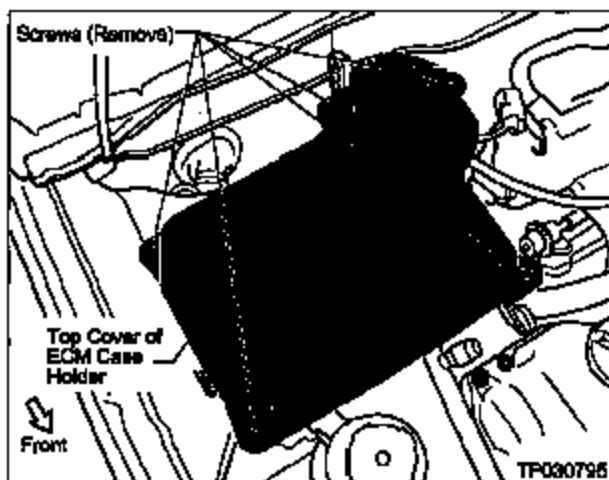

Figure 8
8. Take out five Screws and remove the Top Cover of the ECM Case Holder (see Figure 8).